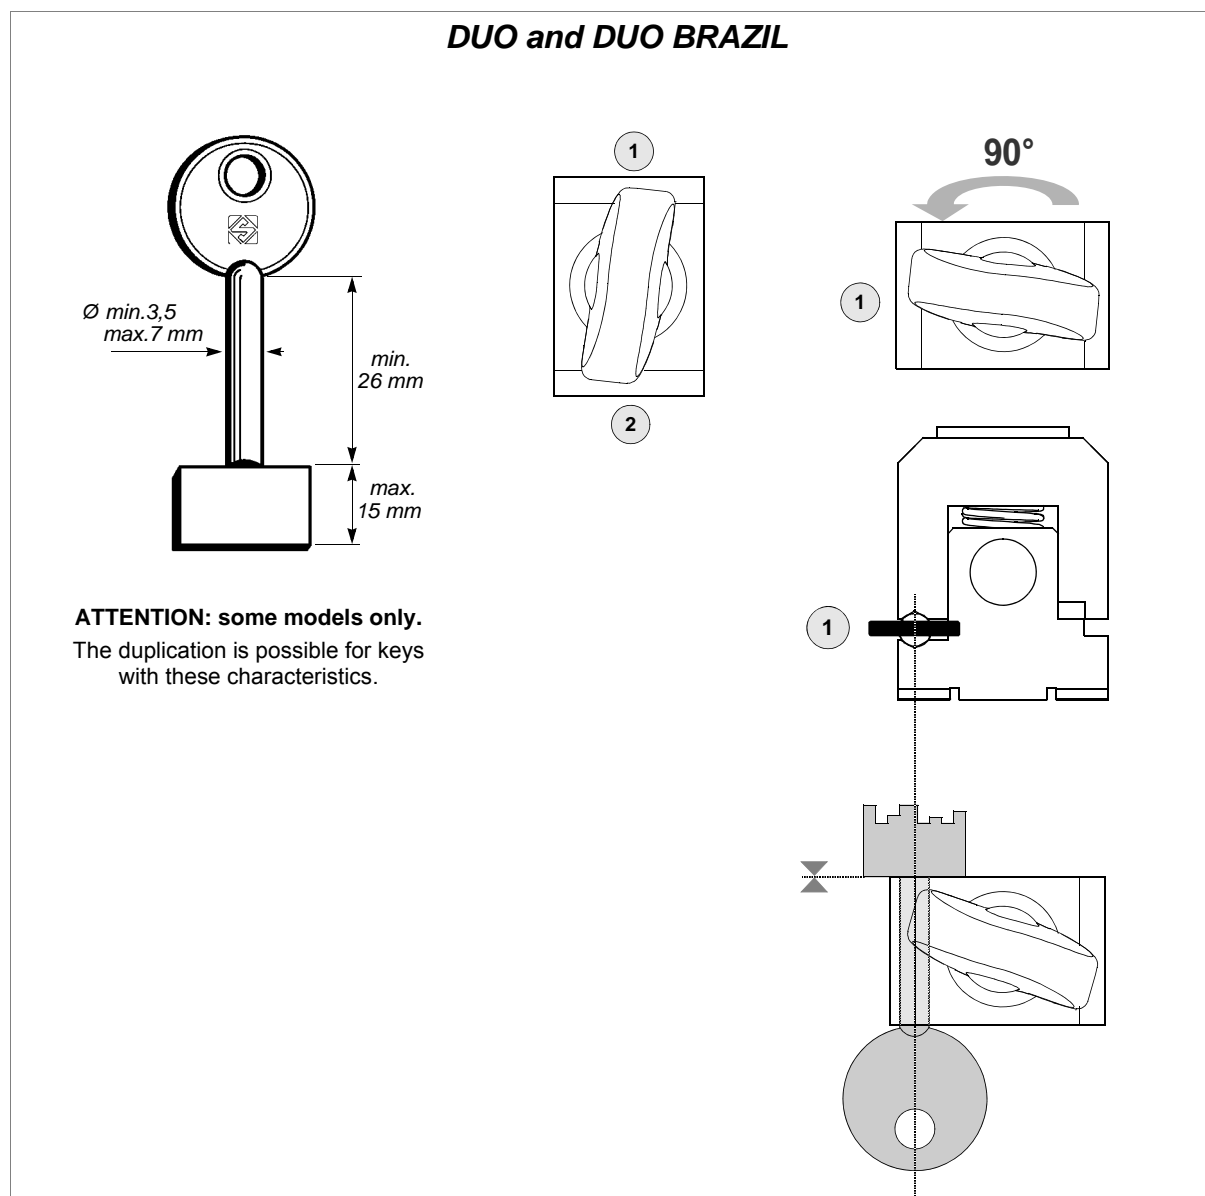

Fig. 44
ATTENTION: some models only (see fig. 44).
- 1) Prepare the clamps with the bit key jaw turned 90° (fig. 44) (fig. 45).
- 2) Lock the clamps into the horizontal position by means of the pin (L).